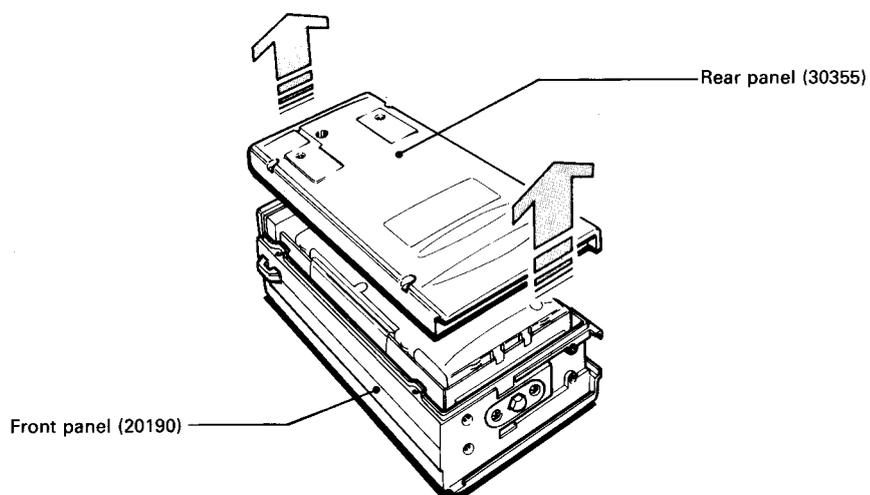

Fig. 5-1-2
3. Remove the rear panel as shown in Fig. 5-1-2.